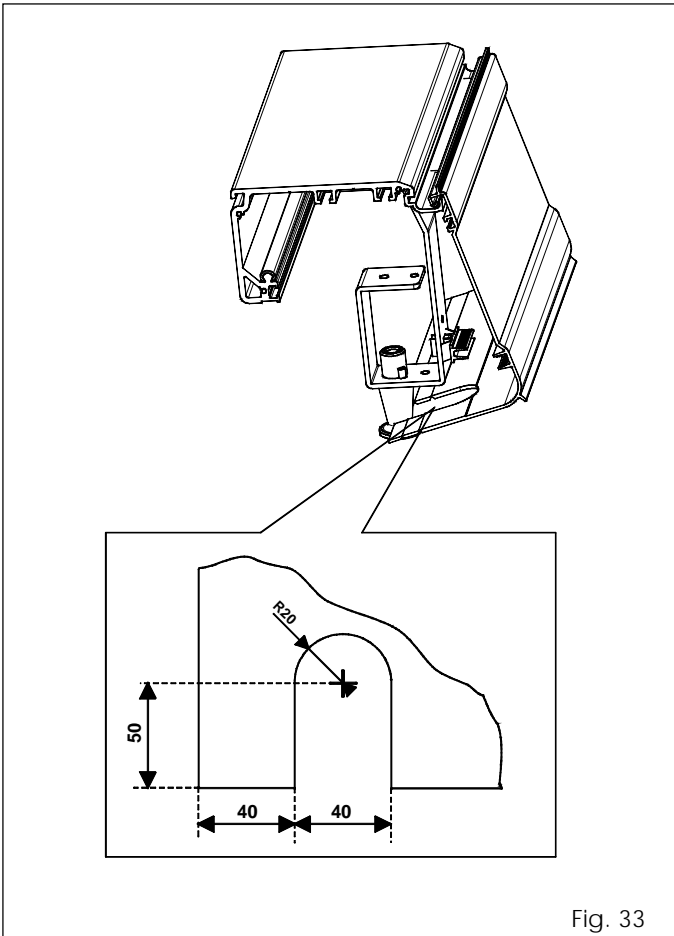

Fig. 33
- N.B.: To ensure correct closure of the housing, if using the internal release, shape the housing to the dimensions in fig. 33.